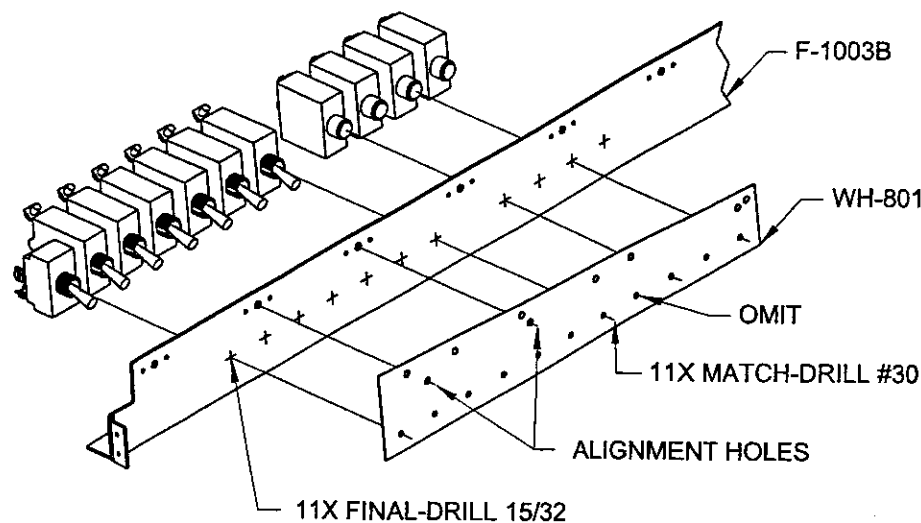

FIGURE 4: DRILLING INSTRUMENT PANEL LOWER FLANGE
Step 4: Screw the WH-801 Rt. Console Template to the F-1003B Instrument Panel Lower Flange at the two alignment holes as shown in Figure 4. Use the same hardware used to attach the instrument panel. Match-Drill pilot holes in the instrument panel lower flange using the 1/8 diameter holes in the rt. console template as a guide. Reposition the template to pilot-drill the remaining hole. Final-Drill as per the callouts for the SCB's, CB's and the toggle switch. Clamp the instrument panel lower flange in a drill press (if it has not been riveted in place) to prevent wandering off centerline.
Step 5: Install the SCB, CB's and toggle switch as shown in Figure 4. The amp values on the toggle faces should be "right side up" making the "OFF" position down. Install the flap switch in similar fashion except locate it near to the throttle control knob or lever.